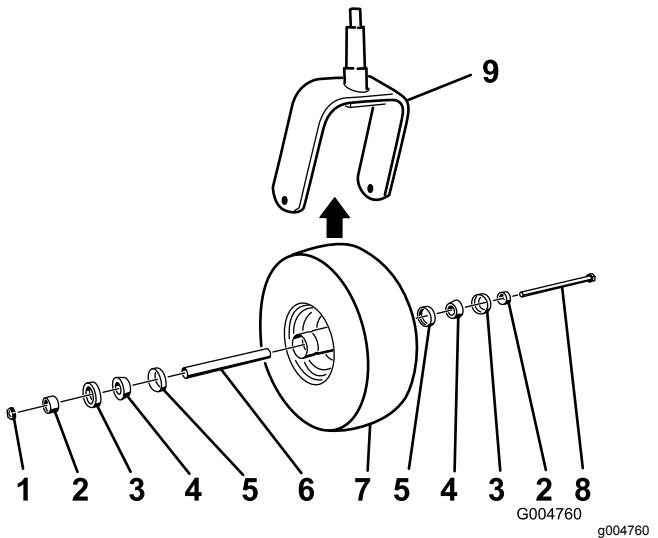

Figure 74
5. Assemble the caster wheel by pushing the cone bearings and seals, packed with grease, into the wheel hub, positioned as shown in Figure 74.
2. Remove the locknut from the bolt holding the caster-wheel assembly between the castor fork (Figure 74).